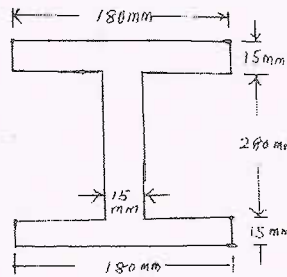

Fig. Q7 (b)
- b. A beam with an I section consists of 180mm × 15mm flanges and a web of 280 mm deep and 15 mm thickness. It is subjected to a bending moment of 120 KN-m and a shear force of 60 kN. Sketch the bending and shear stress distribution along the depth of the section. Refer Fig. Q7 (b). (10 Marks)